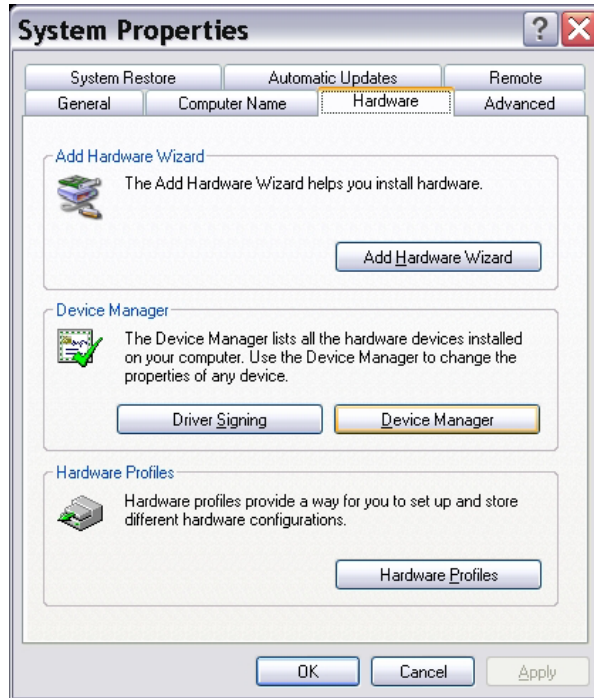

Figure 25 – System Properties
5. With the Spellman High Voltage device connected to the monitoring system, open the MY Computer -> Properties page, or go to the Control Panel and click on the System Icon. Open the Device Manager window. In Windows XP systems, this is accessible from the Hardware tab in the System Properties display as shown in Figure 25.